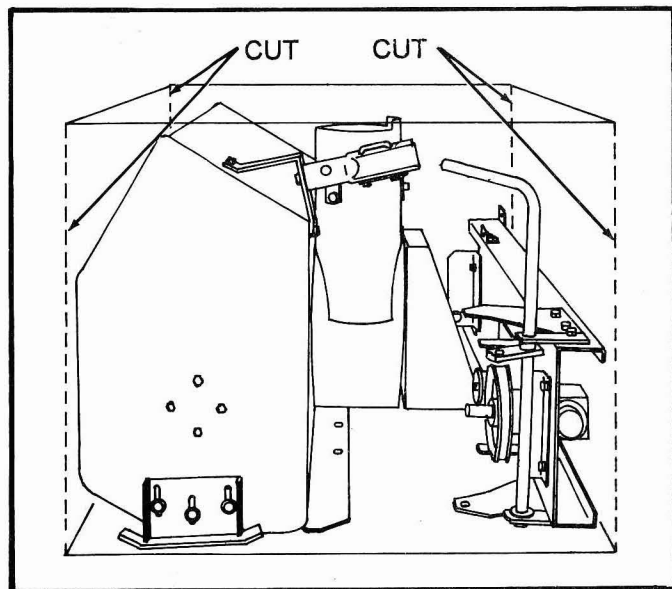

FIG. 1
- Remove all accessible loose parts and parts box from carton. (See Fig. 1)